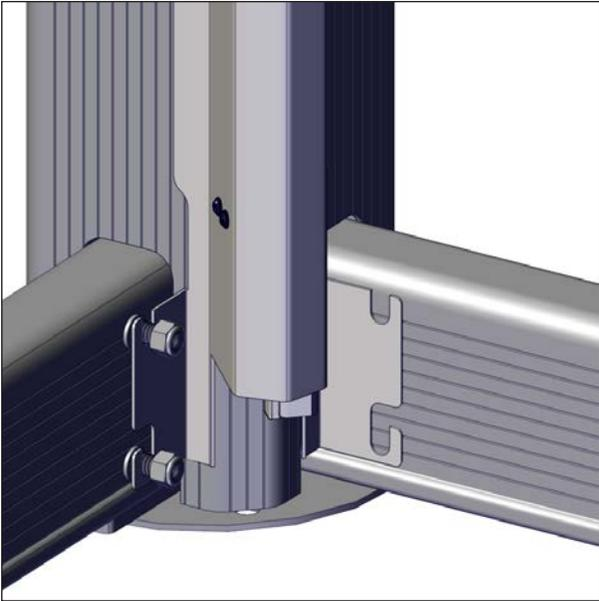

FIGURE 36: INSERT SLOTS OVER SCREWS
9. Insert the slots at the bottom of the wire guard over the loosen screws, see Figure 36.